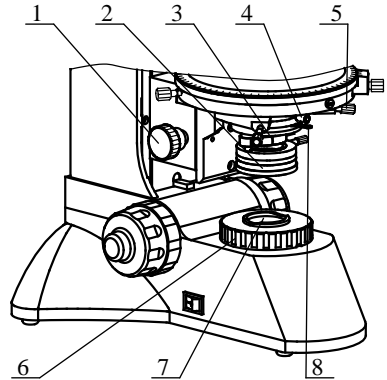

Figure 7
1) **Condenser Components** The condenser is located below the stage, see Figure 7. Abbe condenser; its mounting ring with lock screw and two large centering screws at either side of the adjustment knob for raising and lowering the condenser.
- 1) The polarizing observation function is selected by pushing the analyzer and screwing the polarizer into light path (Figure 7).
**NOTE:** If the condenser alignment is adjusted, you will also need to readjust the polarizer, see the Figure 7. Push the analyzer into light path and rotate analyzer knob to “0”. Rotate the polarizer adjustment to “0”. Loosen the condenser set-screw, and rotate the condenser iris until the field is very dark. Then tighten the set-screw again.